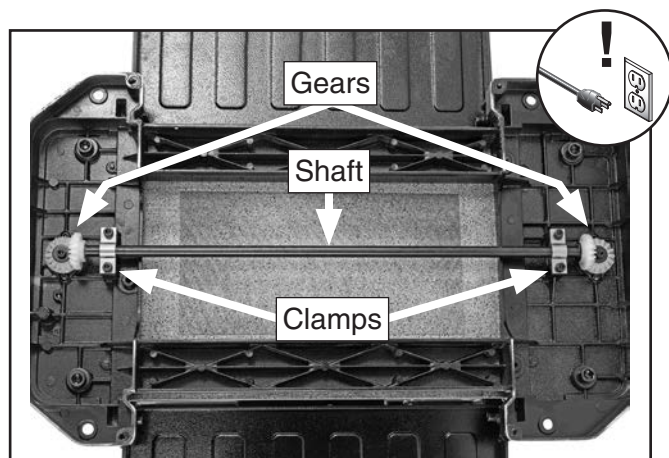

Figure 49. Table height pinion gears.
2. Gently tilt machine onto its back to expose table height gears and shaft (see **Figure 49**).
4. Remove cap screw and flat washer securing gear to shaft or leadscrew (see **Figure 49**).